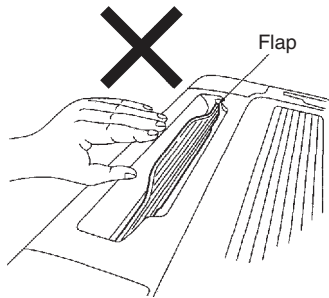

Fig. 7-13
- **Do not touch the flap or apply force to it. (Fig. 7-13) (This may cause flap malfunction.)**